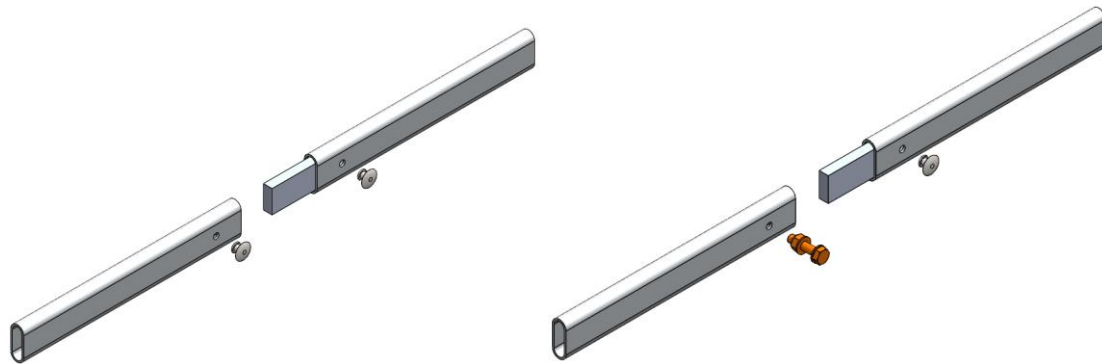

Figure 7
- Parts supplied for cage division (see figure 7)